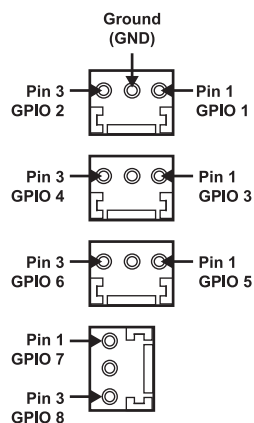

Figure 11 GPI Connections — 8320AR-033 and 8320AR-061 Rear Modules
- Refer to **Figure 11** for GPI/Tally configuration on the rear module.
- Refer to **Figure 11** for GPI configuration on the rear module.